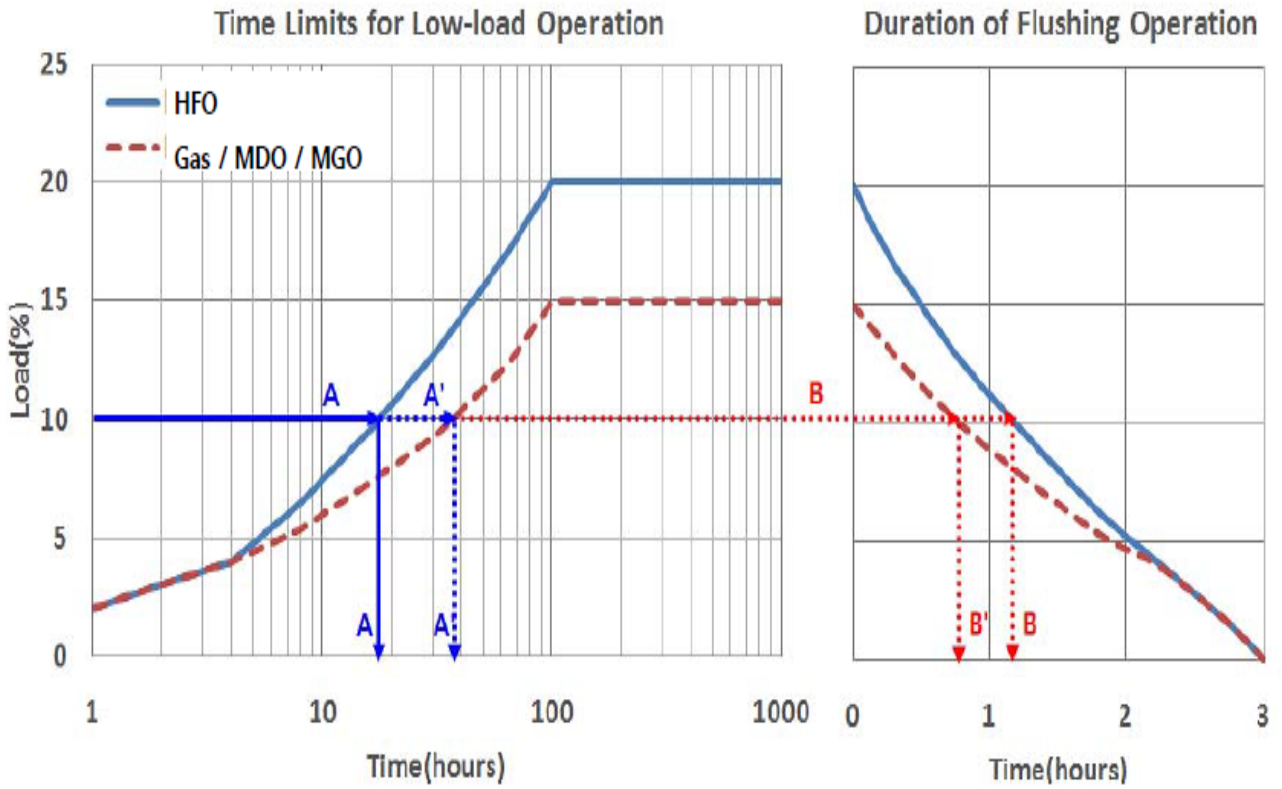

Figure 4-1-4 Time restriction for low load operation
Below 15% load operation : load up over 70% load at every limited time at corresponding load in Figure 4-1-4.
Below 20% load operation : load up over 70% load at every limited time at corresponding load in Figure 4-1-4.
- Duration of Flushing Operation (See Figure 4-1-4)